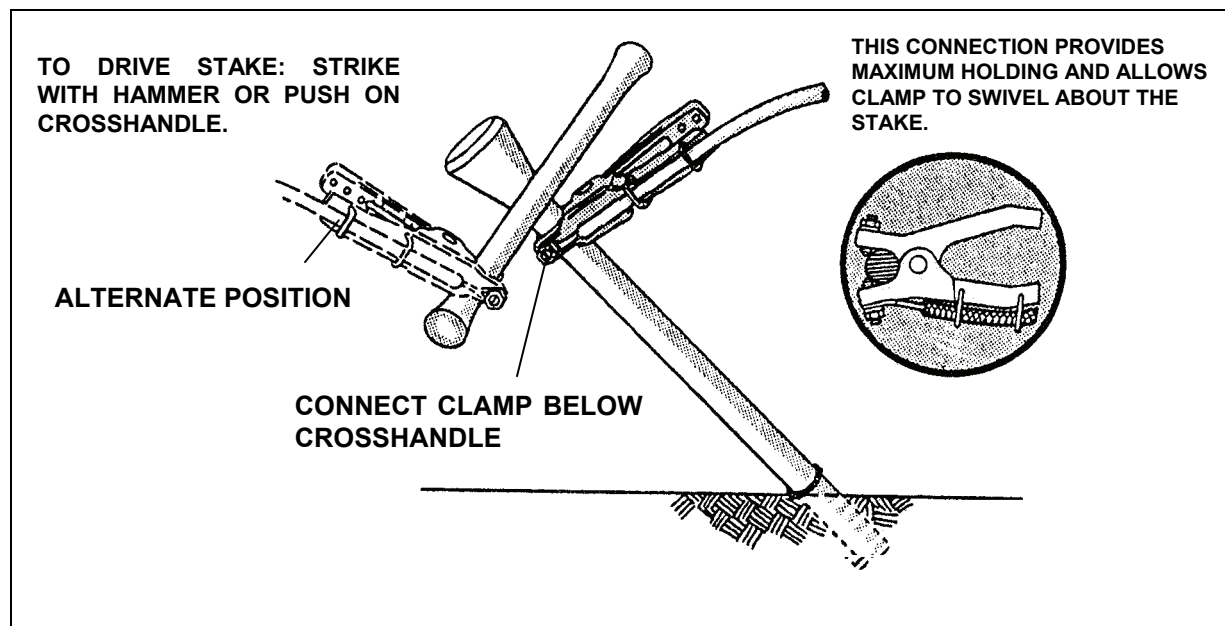

Figure 3-3. Grounding Rod Connection
- Drive the rod into the ground until firmly seated. A minimum of 6 to 8 inches is required in firm ground, 24 inches in sandy or loose soil. Drive the grounding rod in at a 45-degree angle away from the side of the load. This angle will cause the rod to bend, resulting in a less severe injury if someone should fall on it. Connect the cable clamp to the vertical shaft of the stake (Figure 3-3).